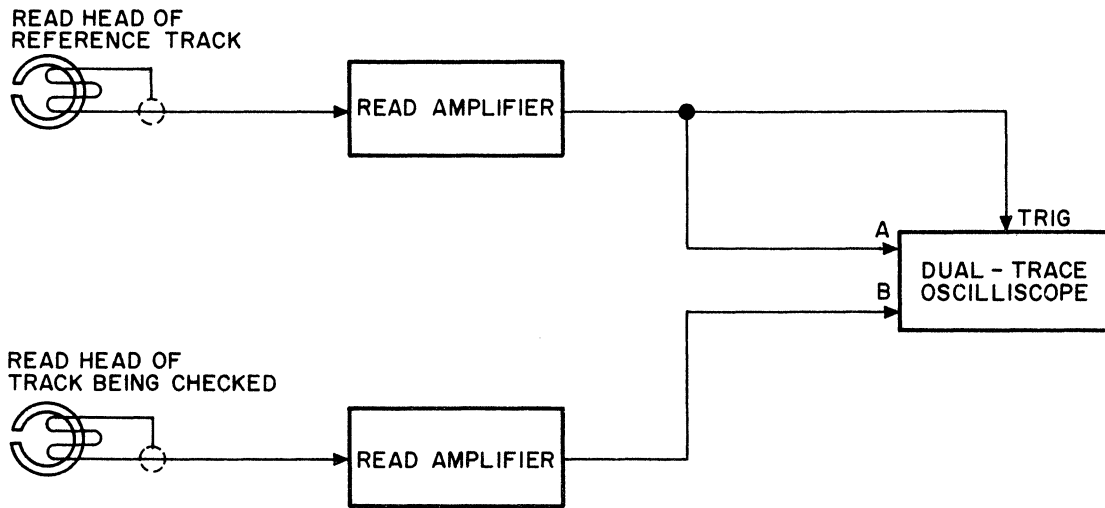

Fig. 4.16
Step 1. Connect the test equipment as shown in Figure 4.16